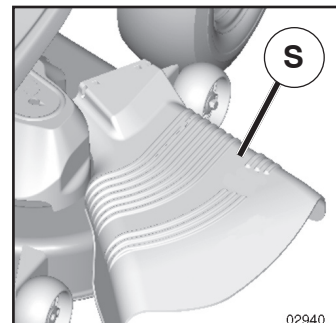

Fig. 10
## TO OPERATE MOWER (See Fig. 10)
**CAUTION:** Do not operate the mower without either the entire grass catcher, on mowers so equipped, or the deflector shield (S) in place (See Fig. 10).